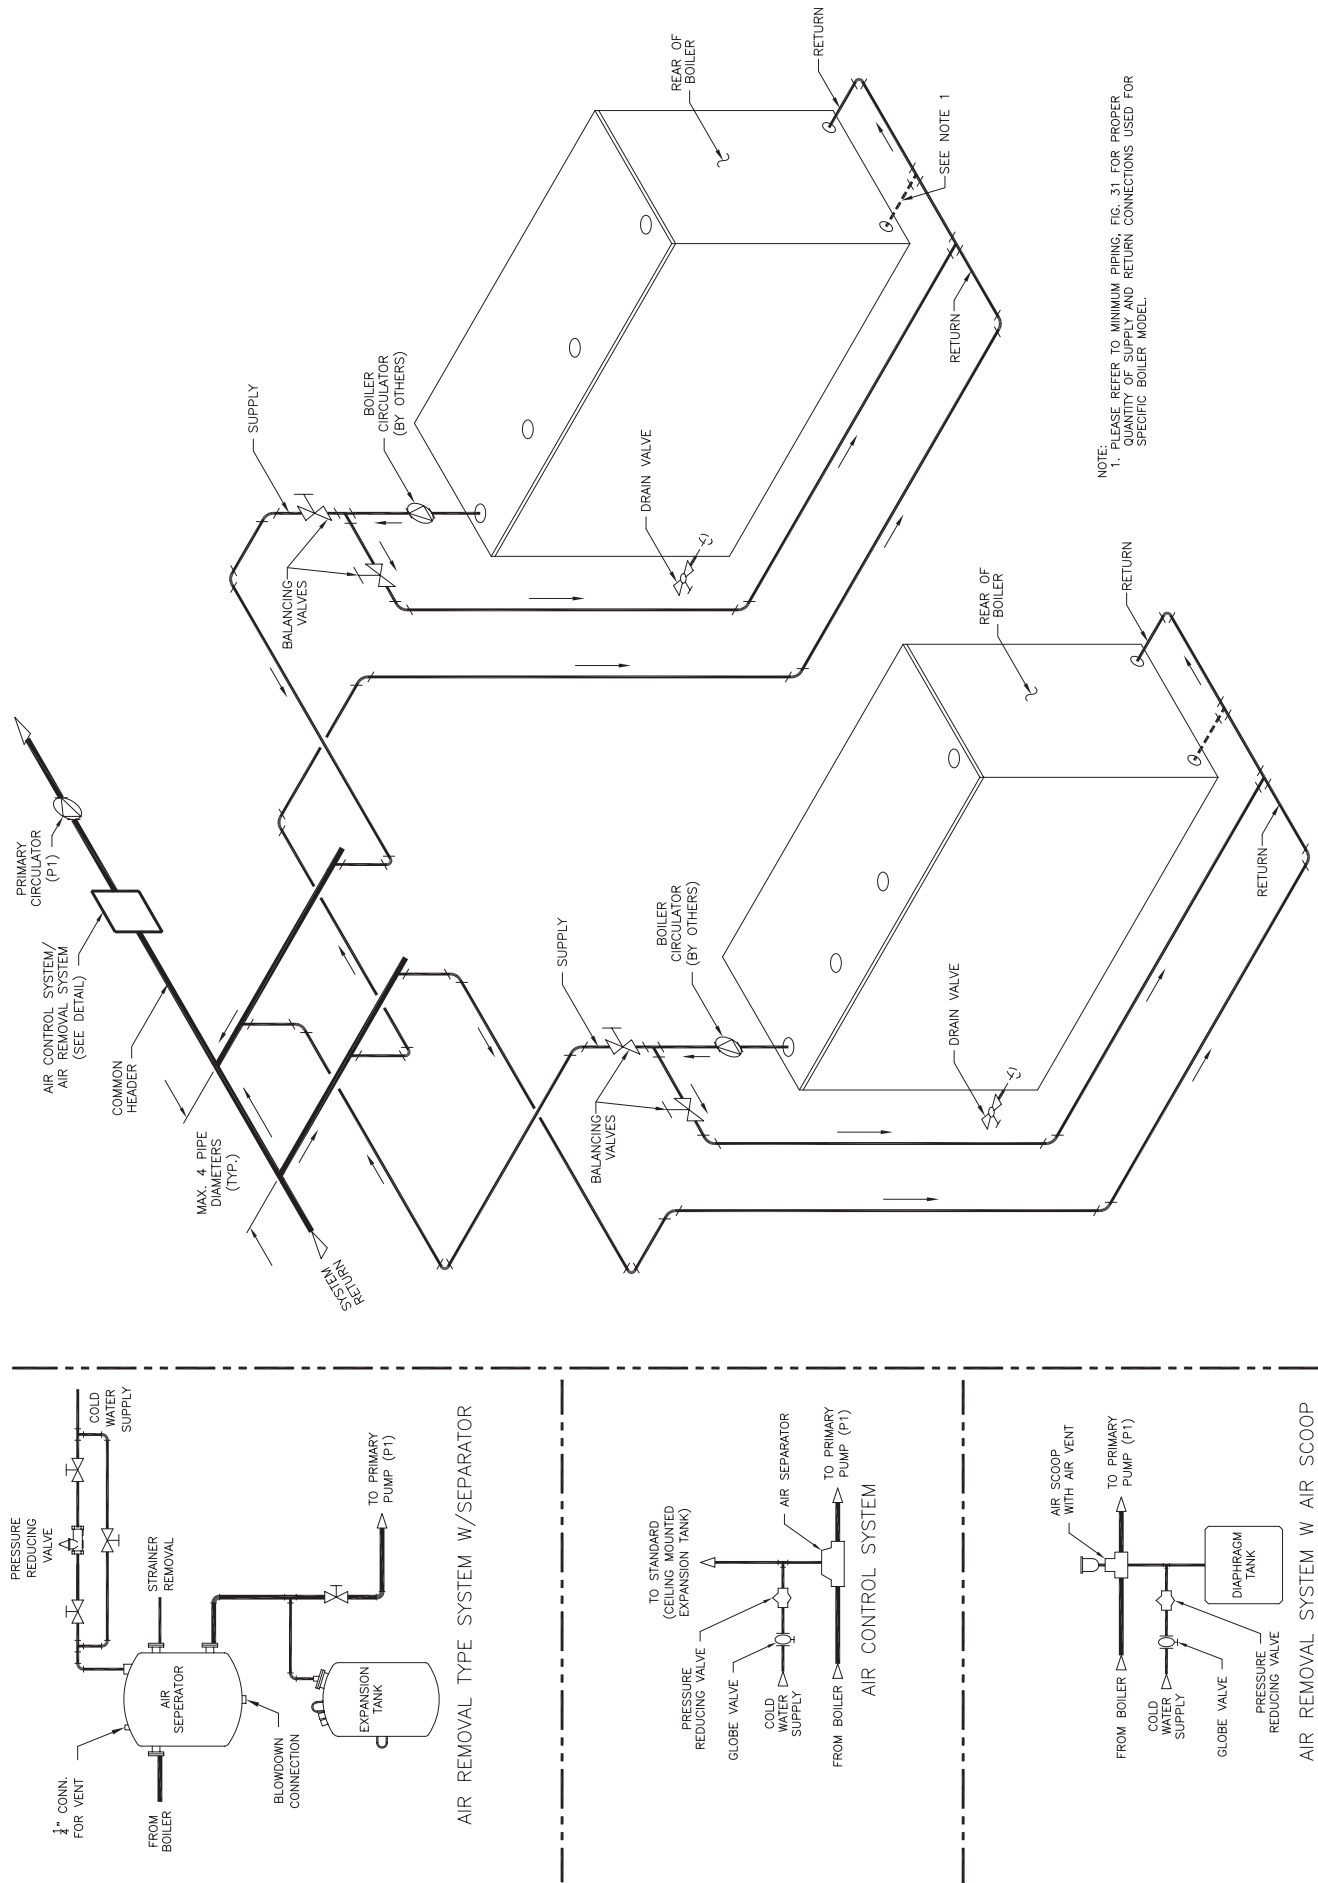

Figure 30: Minimum Piping Details - Multiple Boiler Application, Primary/Secondary Piping With Bypass
- e. Multiple Boilers - Recommended minimum multiple boiler piping is shown in Figure 30 as primary secondary with a by-pass. The boiler circulator will maintain a constant flow through the boiler during every heat demand while the by-pass diverts a portion of hot water back to the return. Alternate minimum multiple boiler piping is shown in Figure 31. The blend pump will maintain constant flow through the boiler during every heat demand and provide a hot water blend back to the return.